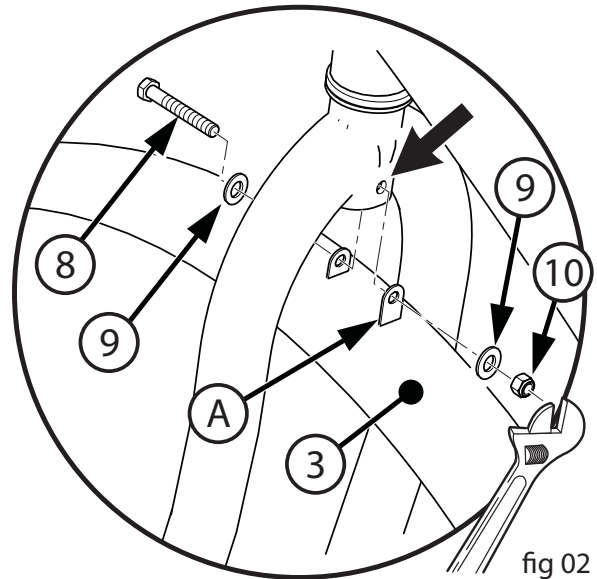

fig 02
3. Place the Fender (3) in the fork with the longer fork mounting tab (A) on the rear side of the fork (**fig 02**).
4. Insert the Bolt (8) through the Washer (9) and Fender tabs and fork mounting hole.
5. Install Washer (9) and Nut (10) onto Bolt (8) and tighten securely.